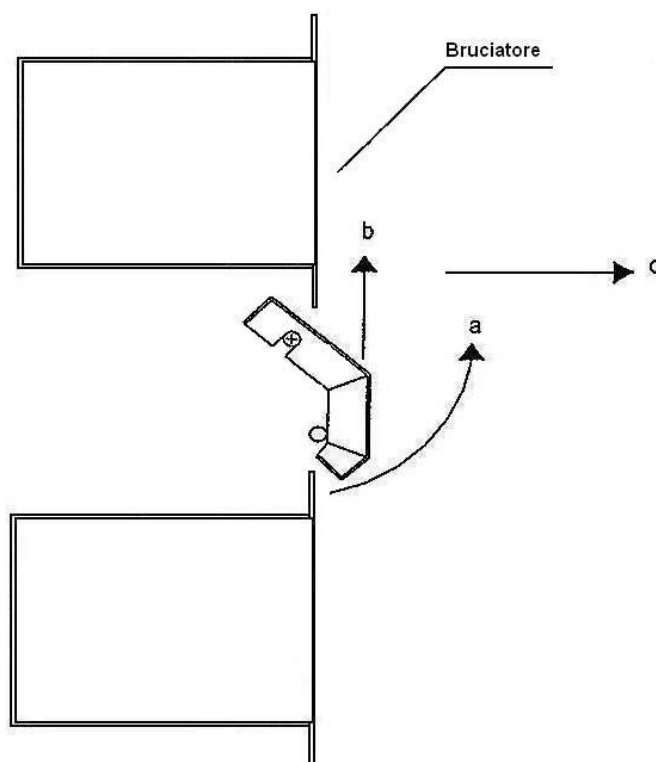

Fig. 7.1.
- Lift the lower part of the burner protection and bring it into a horizontal position (a, *Fig. 7.1*);
- Lift the protection from the horizontal position (b, *Fig. 7.1*); proceed to extracting it smoothly, (c, *Fig. 7.1*);